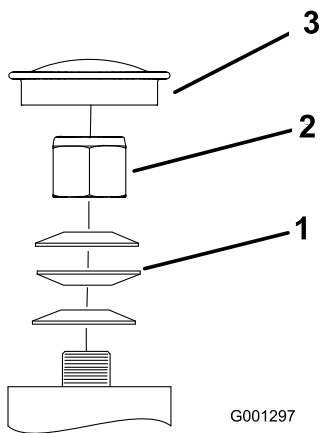

Figure 48
3. Remove the dust cap from caster and tighten lock nut (Figure 48).
4. Tighten the locknut until the spring washers are flat and then back off a 1/4 turn to properly set the pre-load on the bearings (Figure 48).
Important: Make sure spring washers are installed correctly as shown in Figure 48.
5. Install the dust cap (Figure 48).